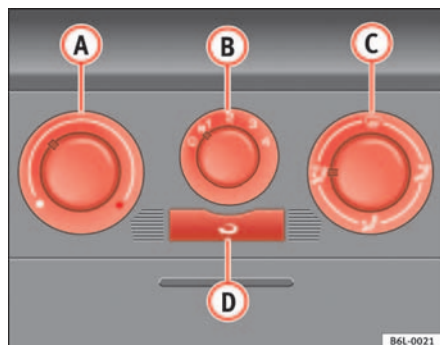

Fig. 86 On the dash panel: Heater controls
- Using the controls ⇒ fig. 86 **A** and **C** and with the switch **B** you can set the temperature, air distribution and the blower speed.